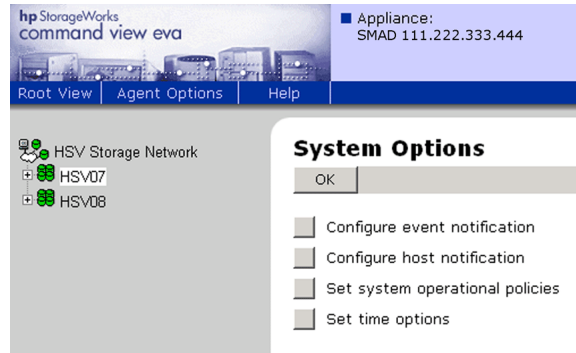

Figure 40: System Options page
4. Click the **Set Options** tab. The System Options page is displayed (Figure 40).